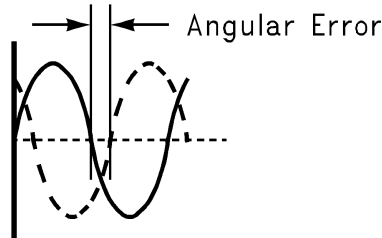
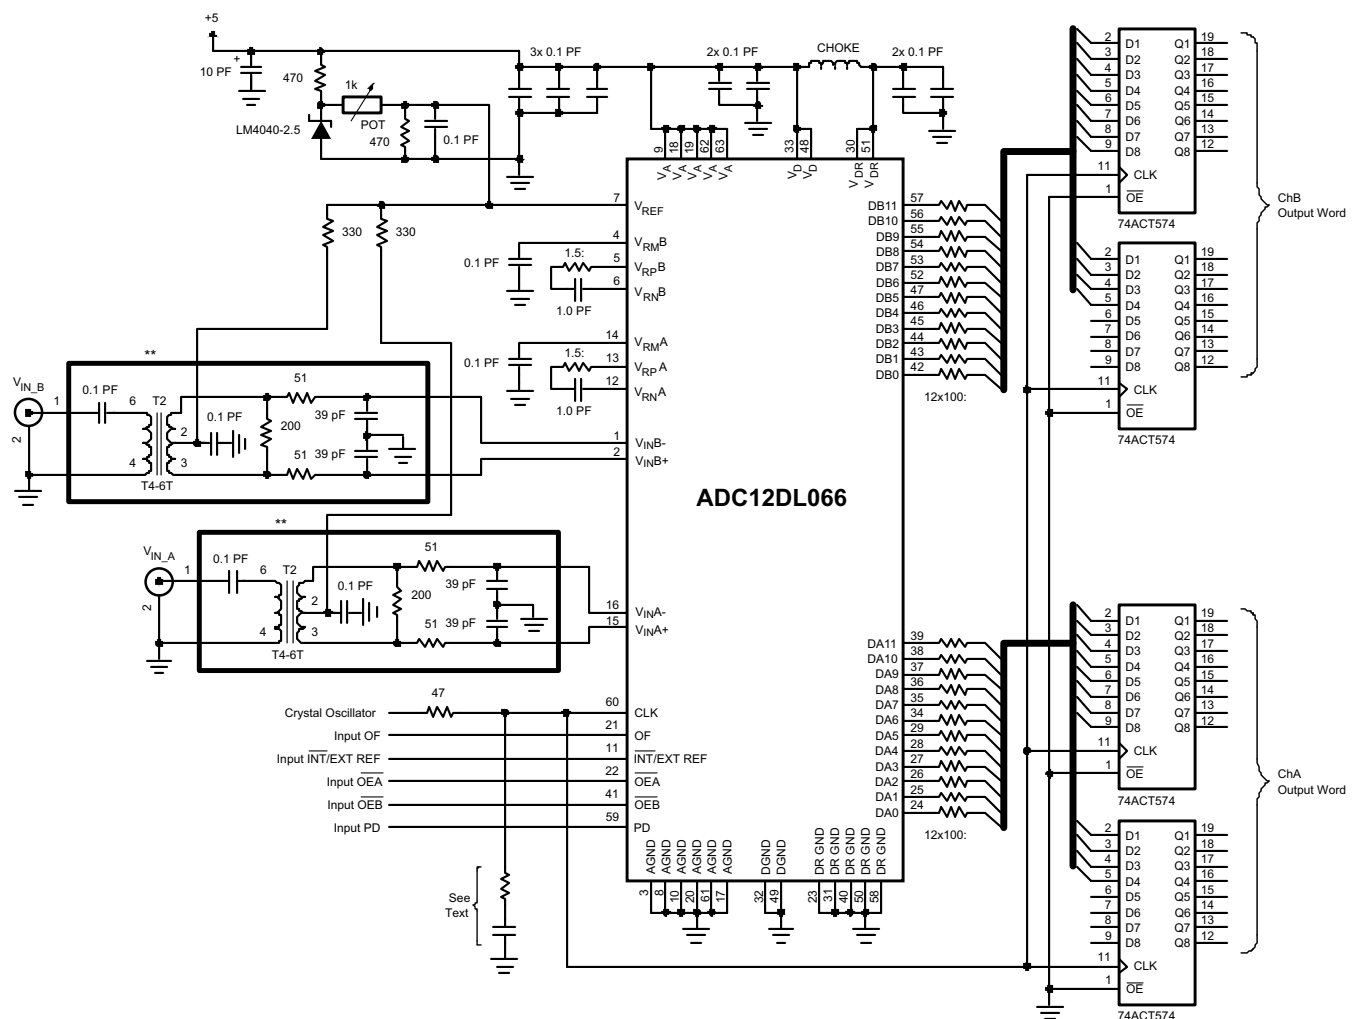
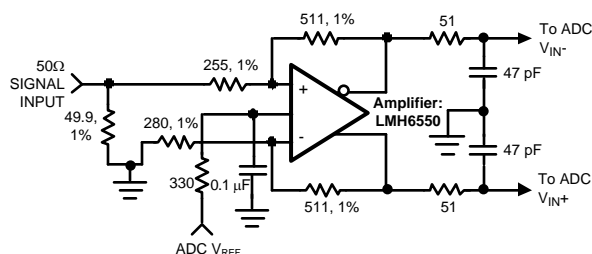

Figure 32. Angular Errors Between the Two Input Signals Will Reduce the Output Level or Cause Distortion
Figure 33. Application Circuit using Transformer or Differential Op-Amp Drive Circuit
Figure 34. Differential Drive Circuit using a fully differential amplifier.
The six Reference Bypass Pins (V_{RPA} , V_{RMA} , V_{RNA} , V_{RPB} , V_{RMB} and V_{RNB}) are made available for bypass purposes. The V_{RMA} and V_{RMB} pins should each be bypassed to ground with a 0.1 μ F capacitor. A series 1.5 Ω resistor (5%) and 1.0 μ F capacitor ($\pm 20\%$) should be placed between the V_{RPA} and V_{RNA} pins and between the V_{RPB} and V_{RNB} pins, as shown in Figure 33. This configuration is necessary to avoid reference oscillation, which could result in reduced SFDR and/or SNR.
- dev is the angular difference in degrees between the two signals having a 180° relative phase relationship to each other (see Figure 32). Drive the analog inputs with a source impedance less than 100Ω . (8)
Because very large input signal swings can degrade distortion performance, better performance with a single-ended input can be obtained by reducing the reference voltage when maintaining a full-range output. Table 1 and Table 2 indicate the input to output relationship of the ADC12DL066. Note again that single-ended operation of the ADC12D040 is not recommended because of the degraded performance that results. A single-ended to differential conversion circuit is shown in Figure 34.
To help isolate the pulses at the ADC input from the amplifier output, use RCs at the inputs, as can be seen in Figure 33 and Figure 34. These components should be placed close to the ADC inputs because the input pins of the ADC is the most sensitive part of the system and this is the last opportunity to filter that input.
Figure 33 shows a narrow band application with a transformer used to convert single-ended input signals to differential. Figure 34 shows the use of a fully differential amplifier for single-ended to differential conversion. The LMH6550 is recommended for single-ended to differential conversion when d.c. or very low frequencies must be accommodated. Of course, the LMH6550 may also be used to amplify differential signals.
It is highly desirable that the the source driving the ADC **CLK** pin only drive that pin. However, if that source is used to drive other things, each driven pin should be a.c. terminated with a series RC to ground, as shown in Figure 33, such that the resistor value is equal to the characteristic impedance of the clock line and the capacitor value is
To minimize noise due to output switching, minimize the load currents at the digital outputs. This can be done by connecting buffers (74AC541, for example) between the ADC outputs and any other circuitry. Only one driven input should be connected to each output pin. Additionally, inserting series resistors of about 100Ω at the digital outputs, close to the ADC pins, will isolate the outputs from trace and other circuit capacitances and limit the output currents, which could otherwise result in performance degradation. See Figure 33.
If the amplifier exhibits overshoot, ringing, or any evidence of instability, even at a very low level, it will degrade performance. A small series resistor at each amplifier output and a capacitor at the analog inputs (as shown in Figure 32 and Figure 34) will improve performance. The LMH6702 and the LMH6628 have been successfully used to drive the analog inputs of the ADC12DL066.